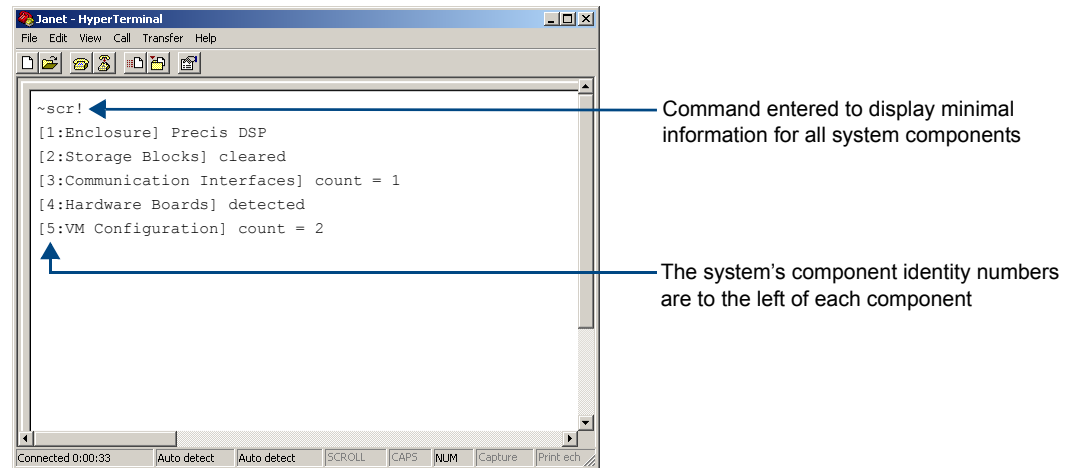

FIG. 9 Example of a Precis DSP splash screen
The splash screen can be accessed using a terminal emulation program, such as HyperTerminal (see page 30). One of four verbosity** settings is specified, which provides either a list of the five system components with minimal information (FIG. 9) or a level of detailed information on one of the five components. Only one verbosity setting and one component setting can be entered in a command. The order in which the verbosity and component settings are entered is interchangeable.
- If both settings are omitted during a query (~scr !), the information displayed will be at the lowest verbosity level for all components (v0 i0) (FIG. 9 on page 33).
Note: Either of these commands provides a “menu” of the identity numbers and their corresponding components (FIG. 9 on page 33).